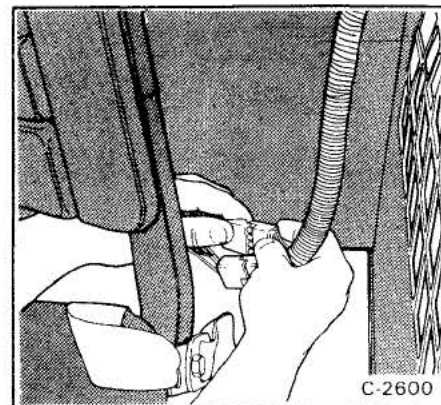

Fig. 35 Electrical Connection
3. Stop the engine, engage the brake, and disconnect the wiring harness behind the seat (Fig. 35).
6. Connect the wiring harness behind the seat (Fig. 35).